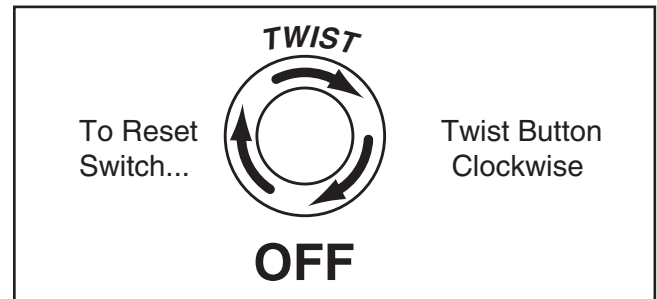

Figure 8. Emergency stop button.
6. Push the Emergency Stop button in, then twist it clockwise so it pops out. When the Emergency Stop button pops out, the switch is reset and ready for operation (see **Figure 8**).